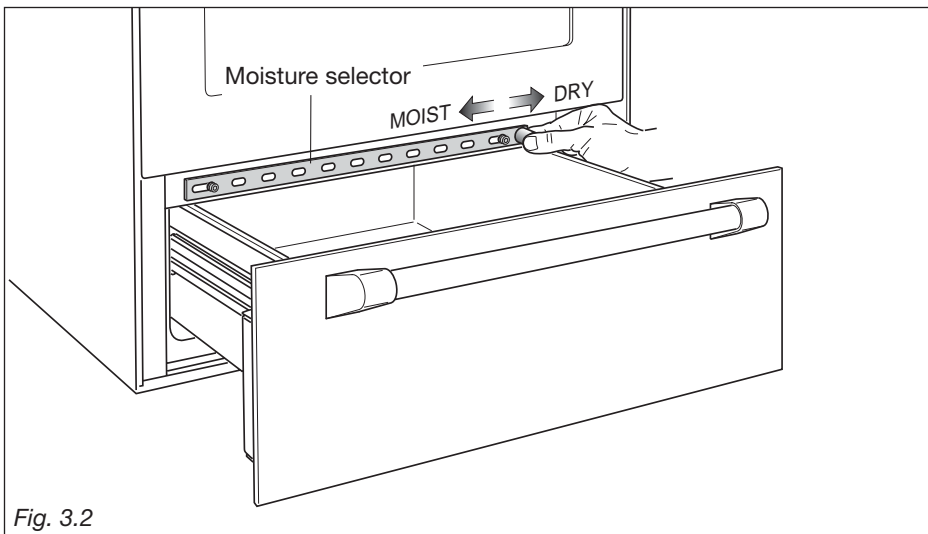

Fig. 3.2
- Slide the Moisture selector to a Moist or Dry position. Intermediate positions can be setted (fig. 3.2) (see the “MOISTURE SELECTOR” chapter)
MOISTURE SELECTOR (fig. 3.2)